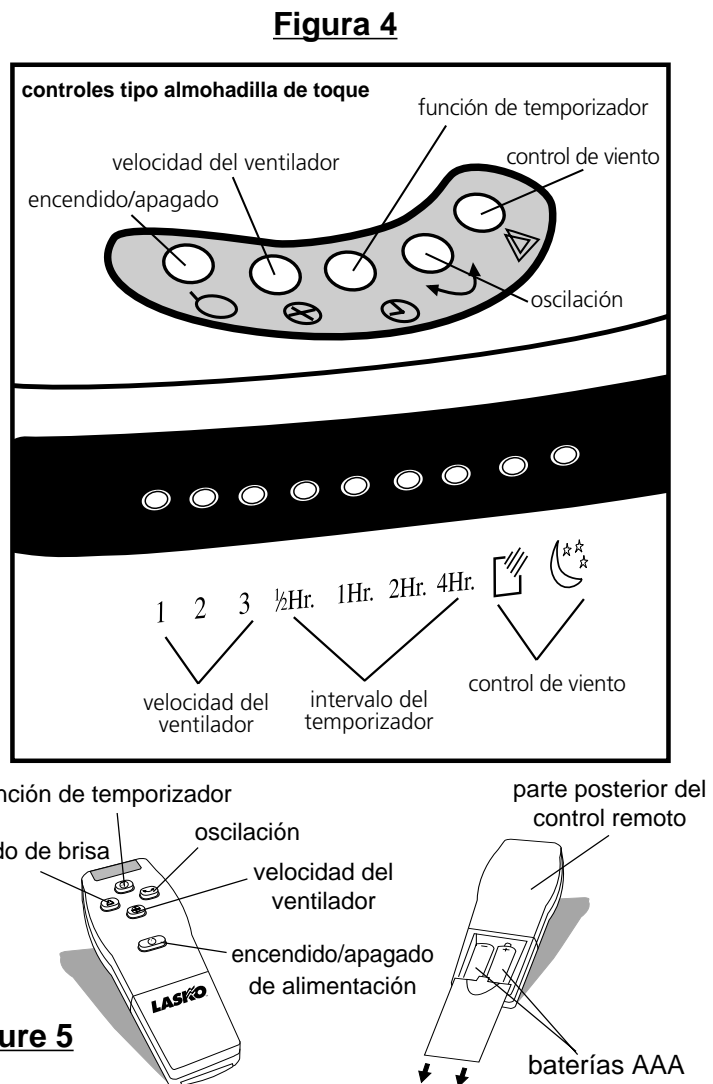

Figure 5
The Wind Tower Oscillating Pedestal Fan may be operated by the manual controls located on top of the fan (as shown in Figure 4) or by your Feather Touch Remote Control (Figure 5)
1. Install the two AAA batteries supplied as shown in figure 5.
4. **Speeds** - You may now adjust the fan speed to the desired level, low (1), medium (2), or high (3) by pressing the Fan Speed Key. Pressing the On/Off Key will start and stop your fan. With the fan energized you may now activate the other available functions.